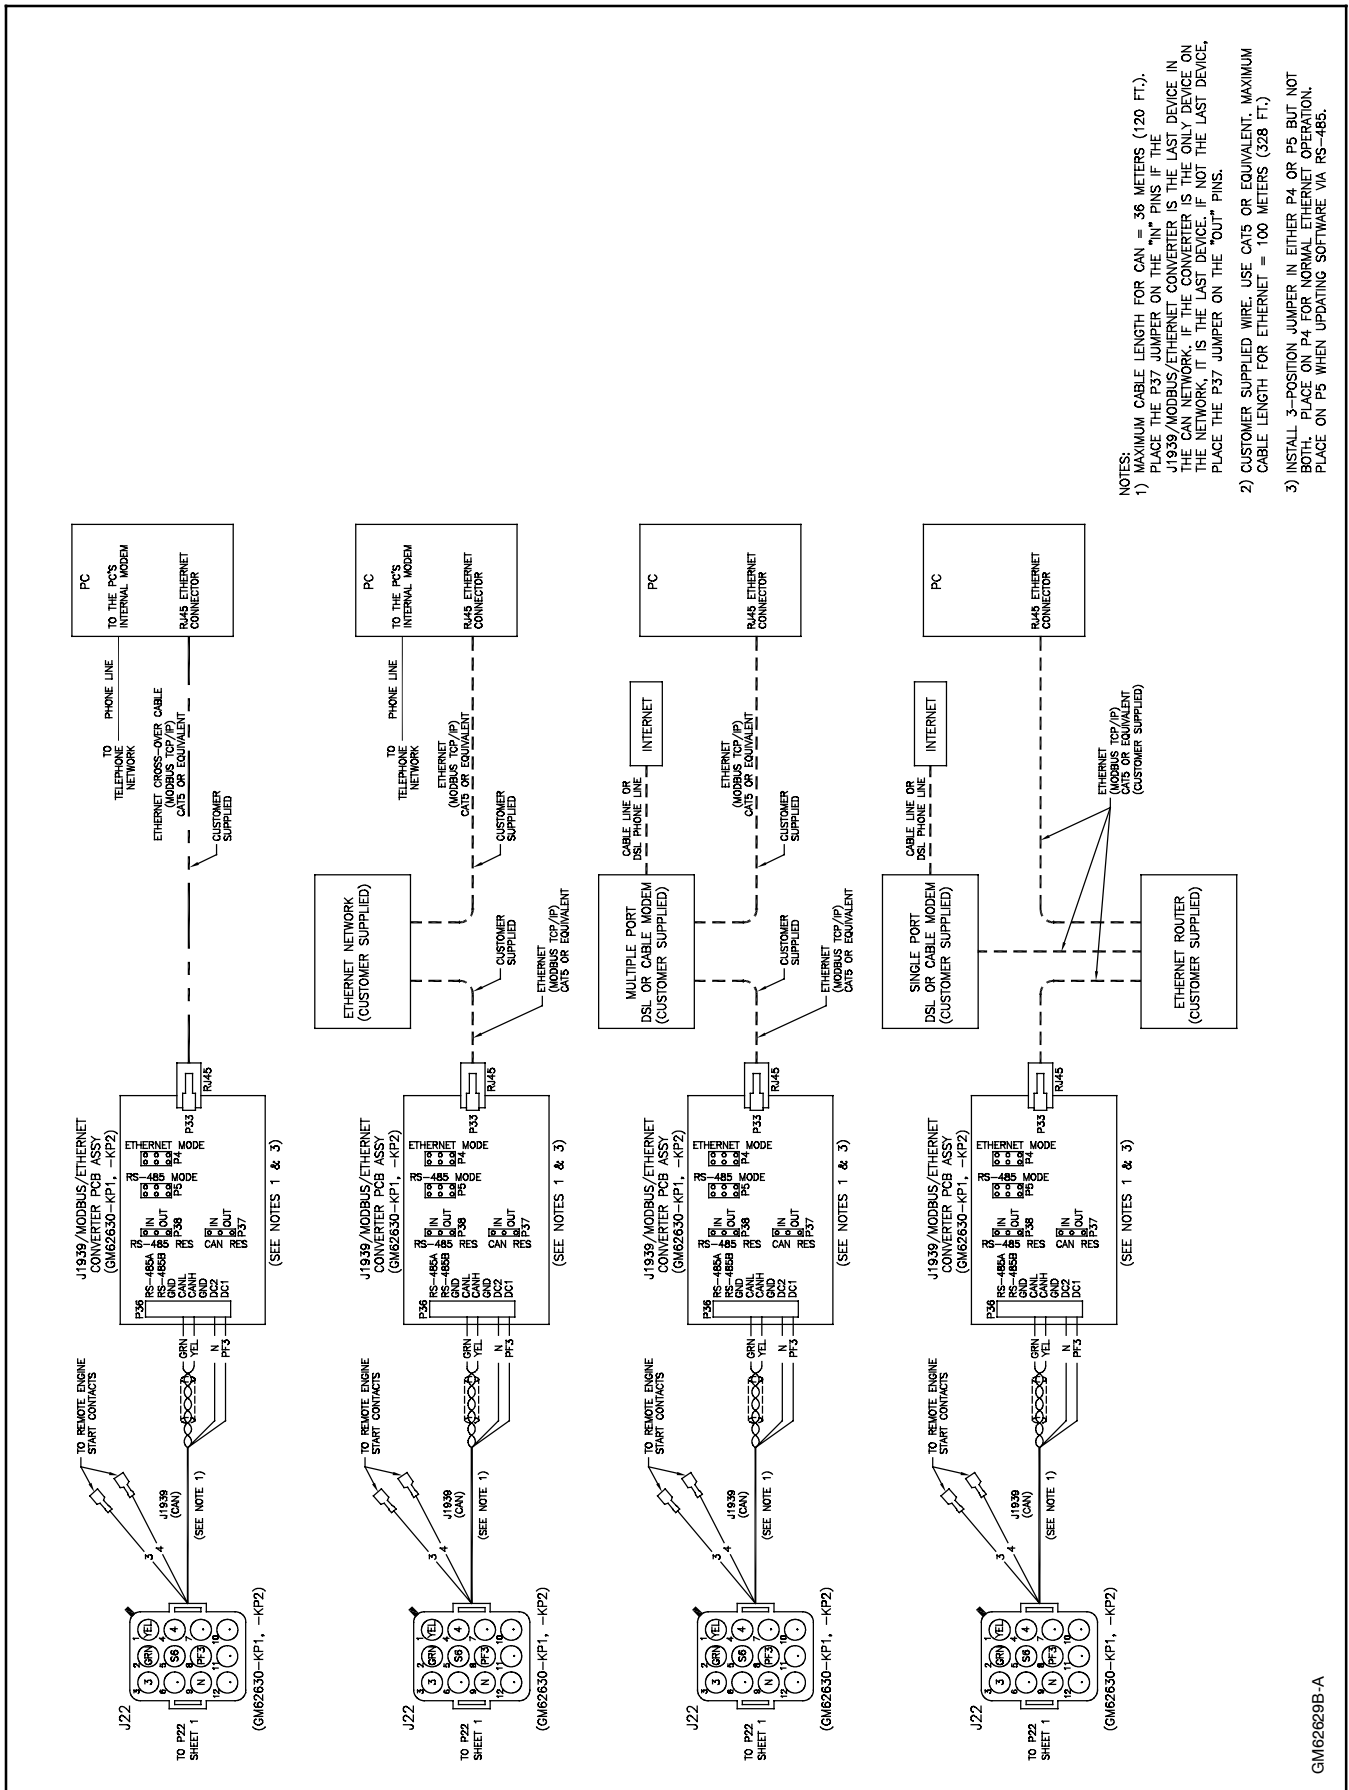

Figure 19 Network Connection Diagram, Sheet 2
1. Connect harness GM62627 to P36 on the bridge. See Figure 19.
3. Connect the network bridge to the customer's Ethernet router. The router must be connected to the cable modem or DSL modem used for Internet access (not provided). See Figure 19.